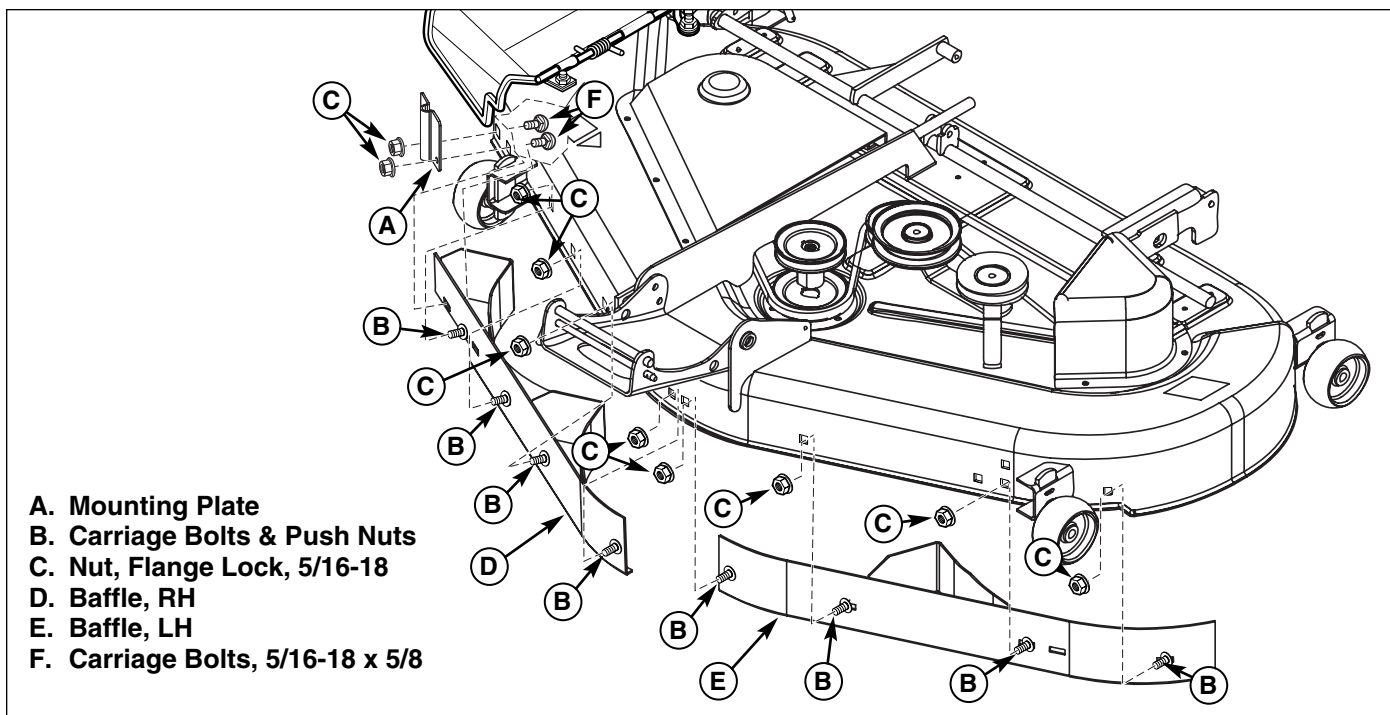
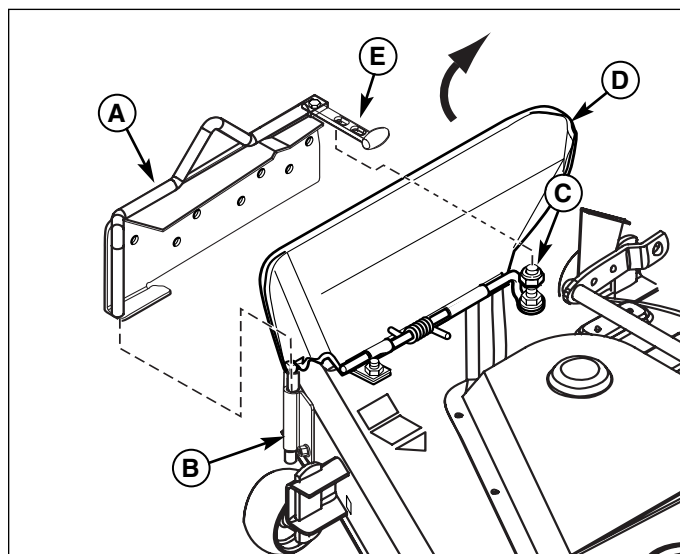

Figure 5. Baffle Installation
Figure 6. Mulch Cover Installation
8. Install mounting plate (A, Figure 5) to mower deck securing with 5/16-18 x 5/8 carriage bolts (F) nuts.
9. Install LH baffle (E) and secure with carriage bolts & push nuts (B) and nuts (C).
11. Lift discharge deflector up (D, Figure 6).
12. Insert mulch baffle assembly (A) into mounting plate (B).
13. Pull rubber strap (E) and secure by placing strap completely over locknut (C).